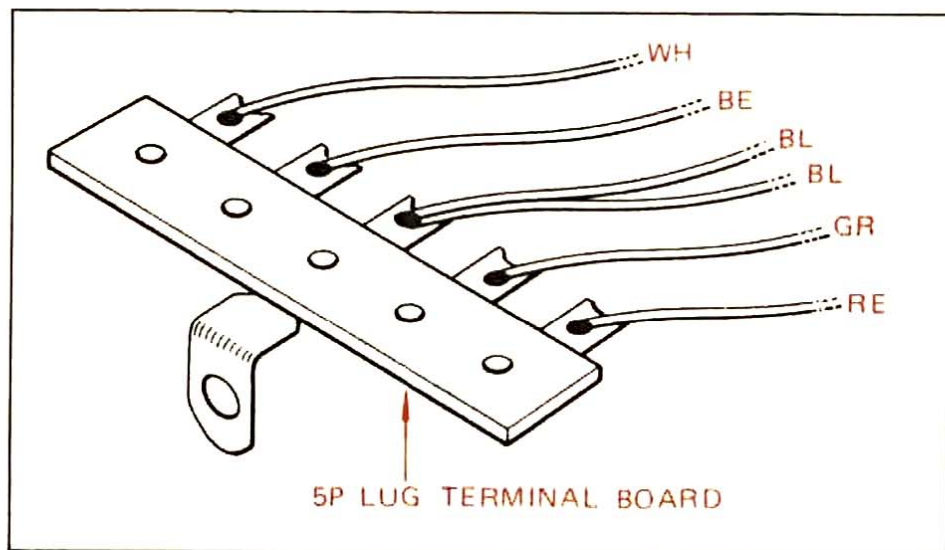

Fig. 1
- b. Remove the lead wires connected to the 5P lug terminal as shown in Fig. 1.